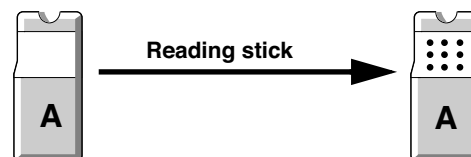

Figure 4-14: The Effect of Reading a Stick on the Toobar Stick Buttons
- 8) After the stick is read, nine blue dots appear on the membrane portion of the stick button in the Toolbar (Figure 4-14).
- 2) The current stick data points, signals, sample identification, time and date of read are copied to the standard stick. Nine blue dots appear on the membrane portion of the standard stick button, similar to reading a stick (Figure 4-14).